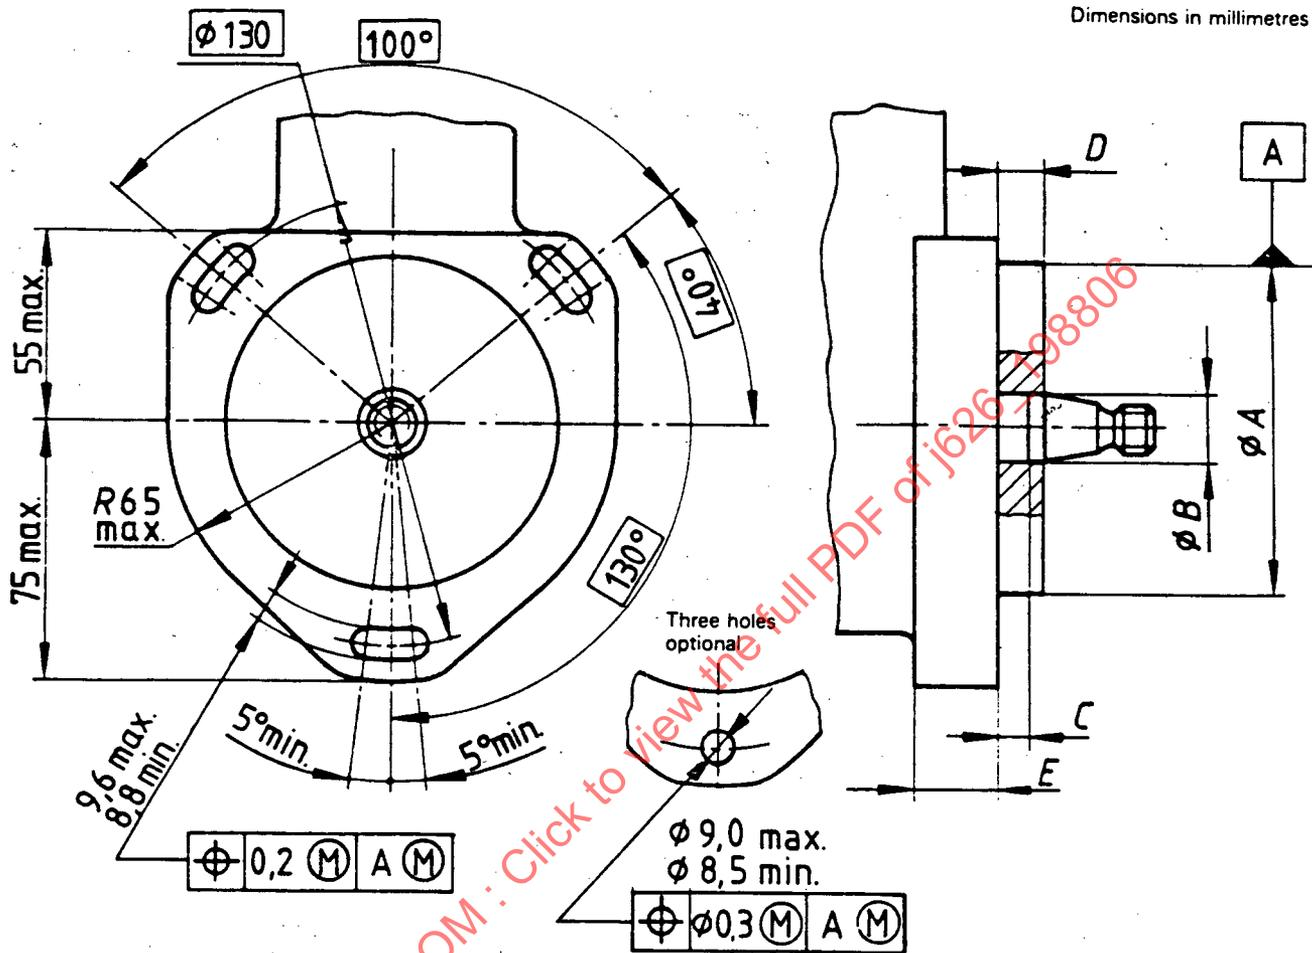

FIGURE 6 - Fuel Injection Pumps - Type 6 End-Mounting Flange
3.2.6 Type 6 Flange: See Fig. 6 and Table 6: